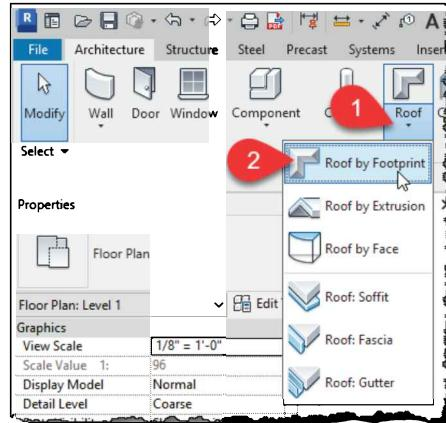

FIGURE 2-4.1 Roof tool
2. Click **Architecture** → **Build** → **Roof** (click the bottom part of the button); a fly-out menu will appear (Figure 2-4.1).